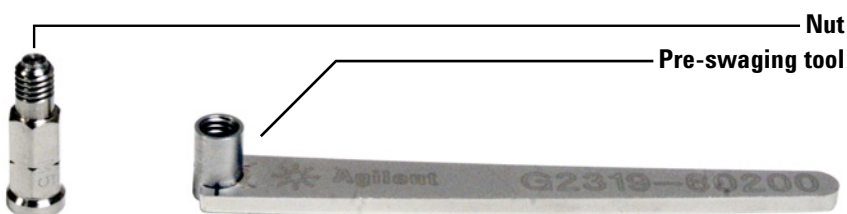

Figure 34 Volatiles interface nut and pre-swaging tool (G4556-67018)
- a Pass the transfer line tubing end through the SilTite ferrule leaving approximately 1 cm of tubing protruding beyond the ferrule. Thread the pre-swaging tool onto the nut (Figure 34) with the tubing protruding through the tool.